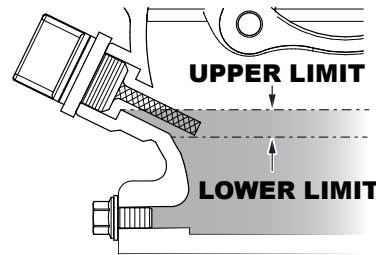

Figure 13. Engine Oil Level
4. If the oil level (Figure 13) is low, fill to the edge of the oil filler hole with the recommended oil type (Table 8). Refer to Table 4 for engine oil capacity.